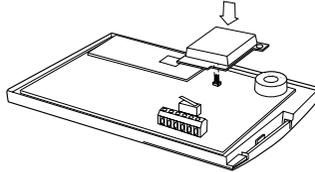

Figure 6. Fitting a 934 Module (over the keypad)
2. Fit the 934 module to the connector pins, as shown in Figures 6 and 7.